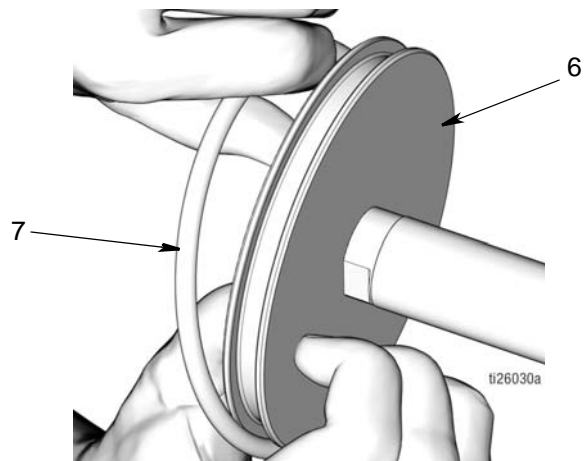

FIG. 50
- e. Apply a thin layer of grease to o-ring (7). Install o-ring (7) around piston (6) as shown in FIG. 50.